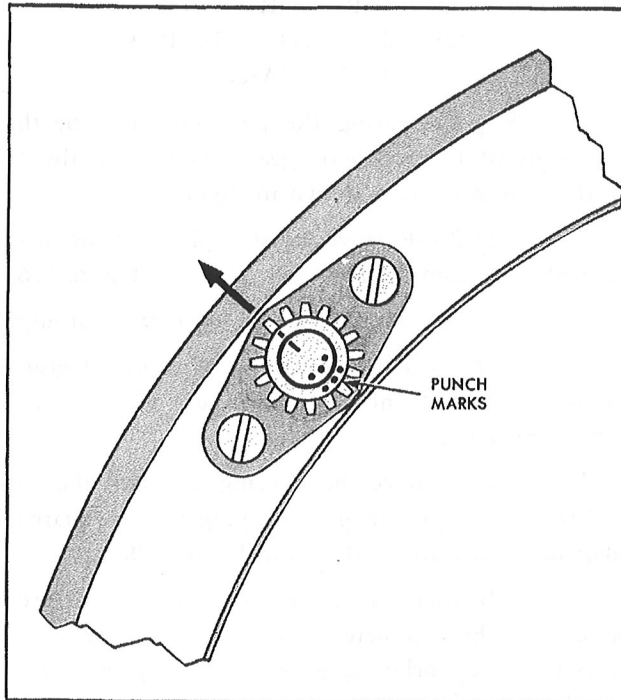

Figure 170—Installation of the Control Screw Pinions
3. Install the pinion gears on the proper control screws. These may be identified by punch marks on the end of the control screw shank and the end of the control screw pinion. Align the marks on the end of the screw with the corresponding mark on the pinion. See Figure 170. The marks on the pinions should face